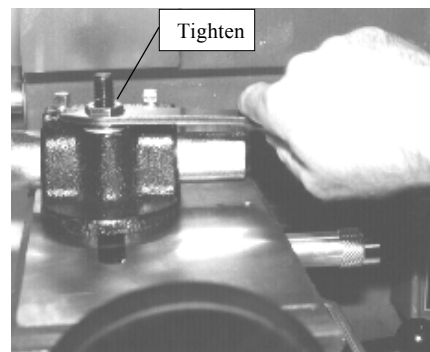

Figure 17
3. Move cross slide to its innermost position and then back off by turning dial wheel five turns (about 1/2") counterclockwise. Loosen nut and adjust tool post holder, tool bar, and cutter assembly to approximate drum diameter. Tighten nut and leave feed shift lever in neutral (N) position. **See Figure 17.**